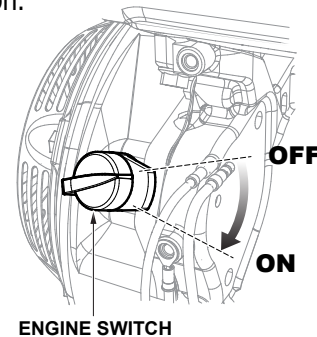

Figure 13. Engine ON/OFF Switch (ON Position)
5. Place the engine **ON/OFF** switch (See Figure 13) in the **ON** position.